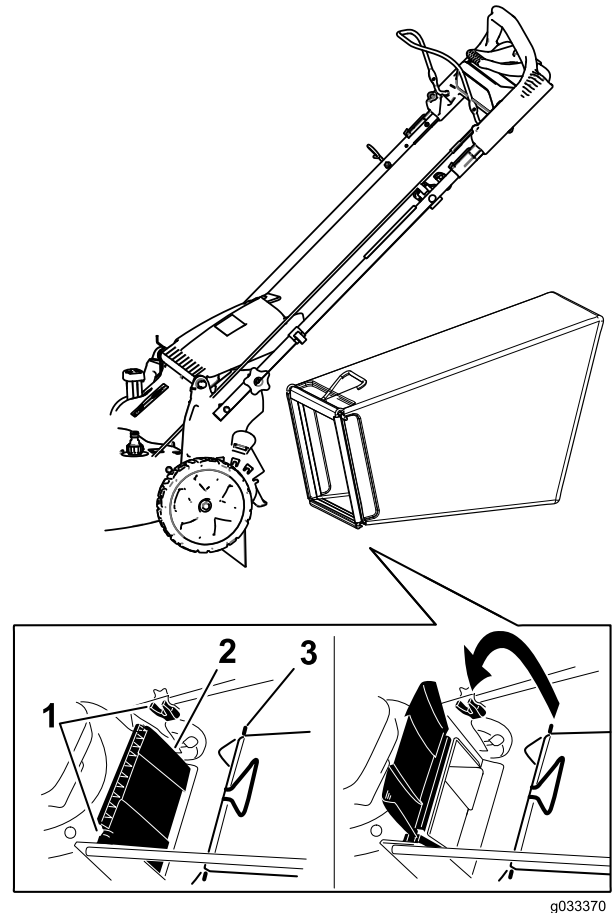

Figure 19
2. Install the grass bag, ensuring that the pins on the bag rest in the notches on the handle (Figure 19).